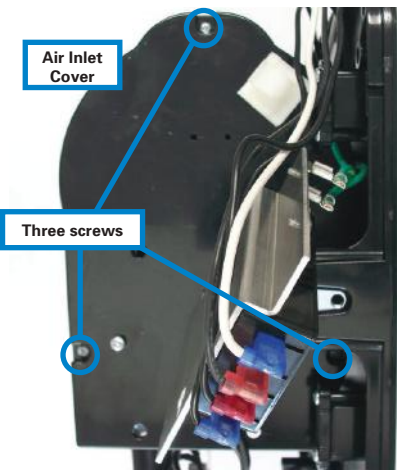

Figure 4
3. Remove the **three (3)** screws from the air inlet cover and pull it off the dryer. **Save all three of these screws for later use in Step 11. (Figure 4)**